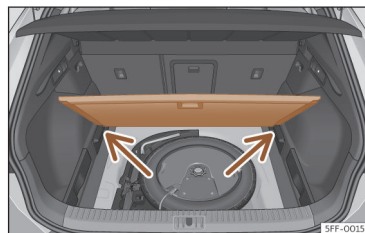

Fig. 187 Variable boot floor: tilted position.
- Rest the floor on its housings >>> Fig. 187 (arrows).